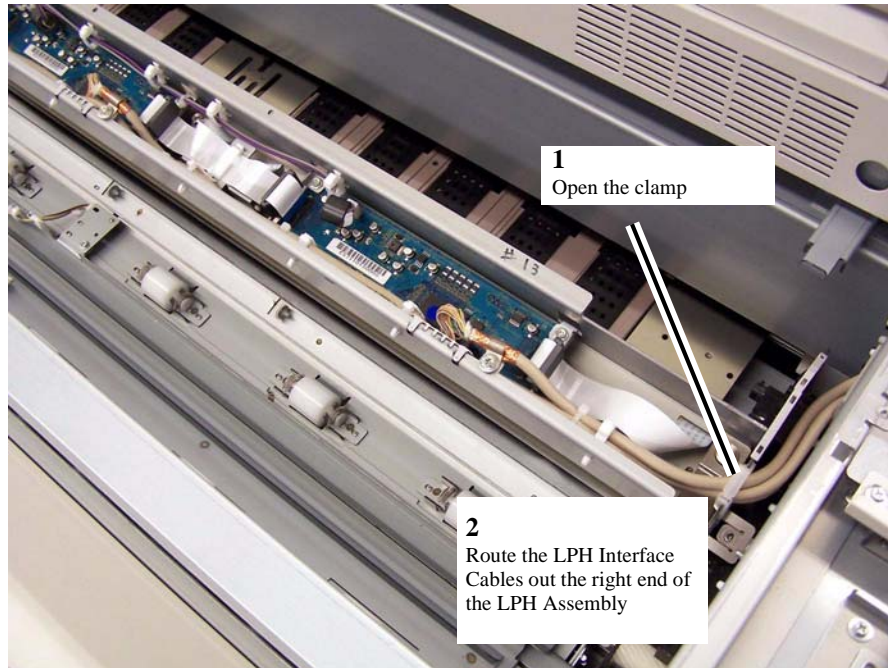

Figure 5 Routing the LPH Interface Cables out of the LPH Assembly
- 7. Remove all LPH Interface Cables from the open cable clamps, open the clamp at the far right end of the LPH frame, and route the cables out the right end of the LPH Assembly (Figure 5).